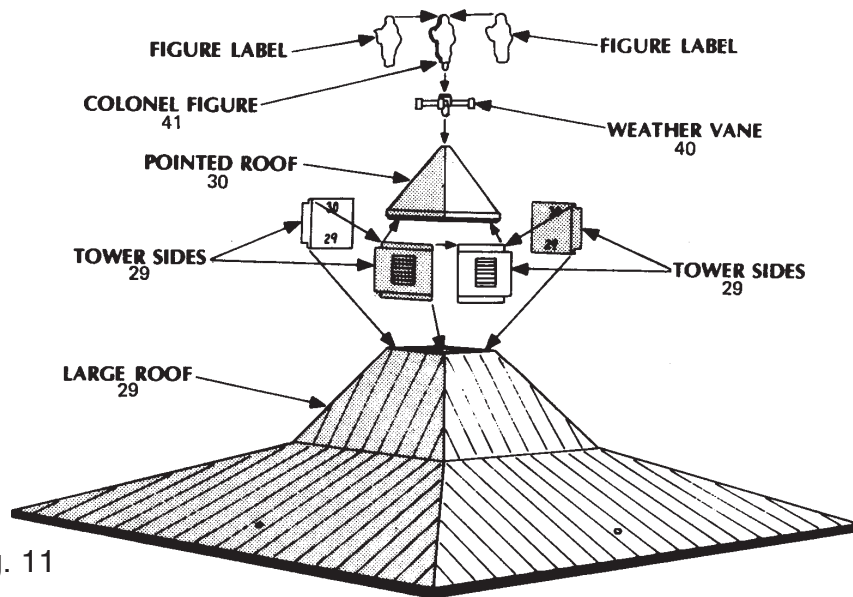

fig. 11
11. Cement the four TOWER SIDES (29) to the LARGE ROOF and to each other, with the number "29" next to the roof. Then cement the POINTED ROOF (30) to the tower sides. Cement the WEATHER VANE (40) to the pointed roof and the COLONEL FIGURE (41) on top. Cut out and peel off the two FIGURE LABELS and stick them to the colonel figure. (Fig. 11)